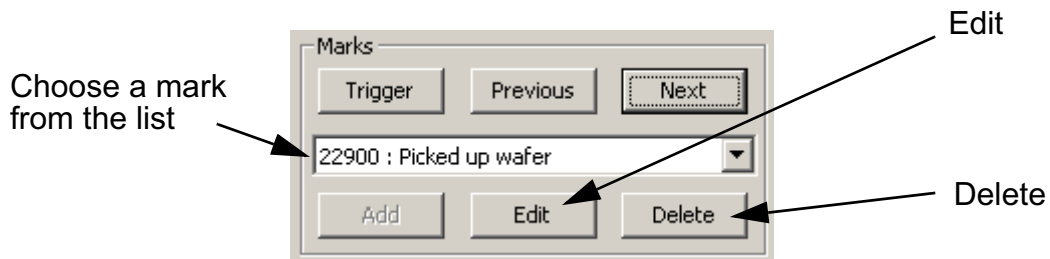

Figure 4.7: Editing Marks
2. To delete the mark, click **Delete** (see Figure 4.7). To edit the annotation associated with the mark, click **Edit**. When you click **Edit**, the Annotate Mark dialog appears.